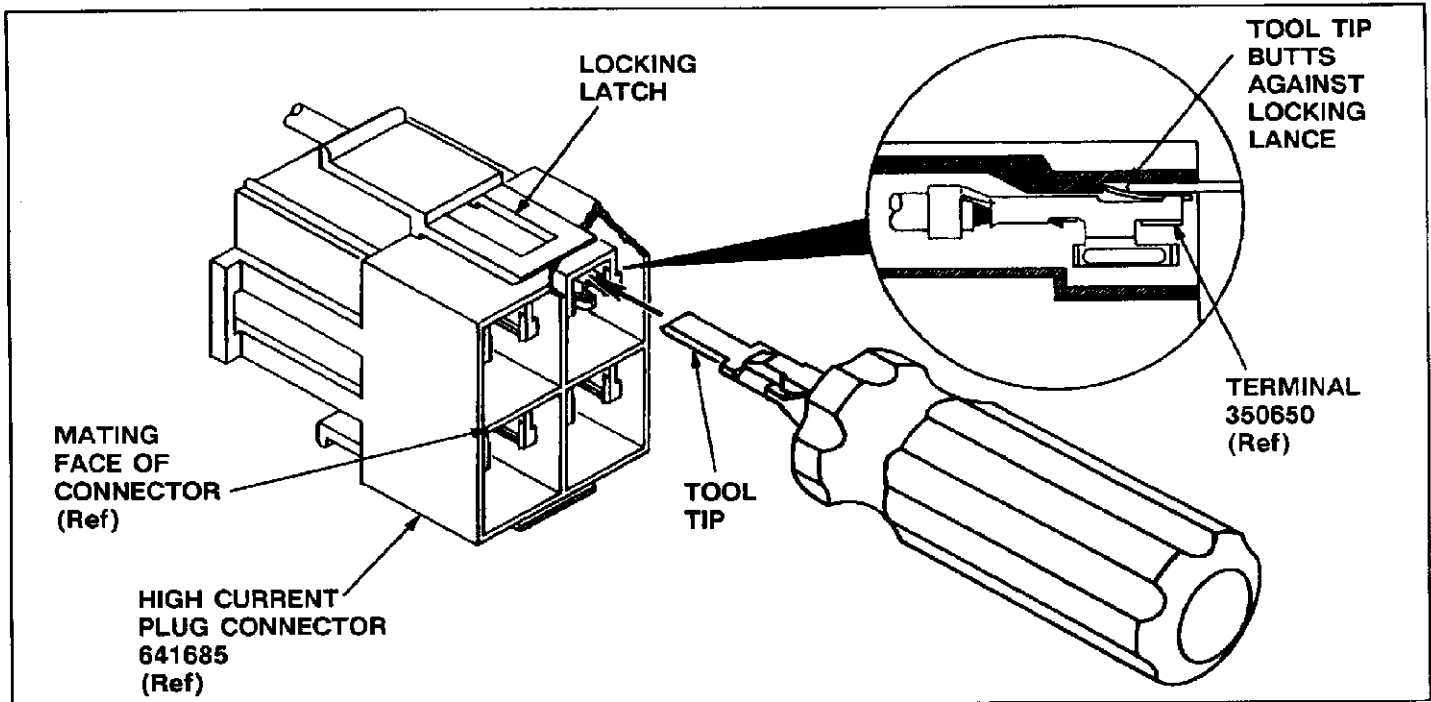

Fig. 2
## 3. EXTRACTION PROCEDURE (Figure 2)
1. Unmate connector assembly (release locking latches and pull the connectors apart). Hold mating face of connector toward you and orient the connector cavities as shown in Figure 2.